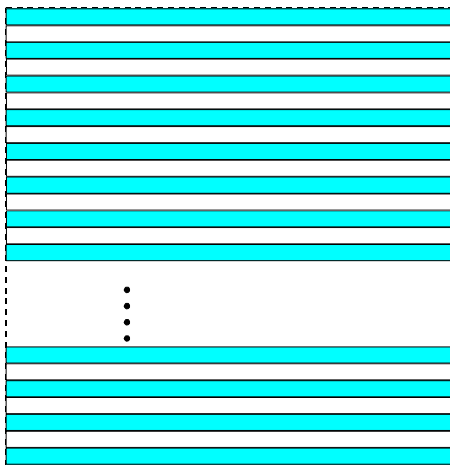

Fig. 84: Decimation of 2 (Mono Cameras)
- 2 for mono cameras: only every second row of the acquired frame will be transmitted out of the camera (Figure 84).